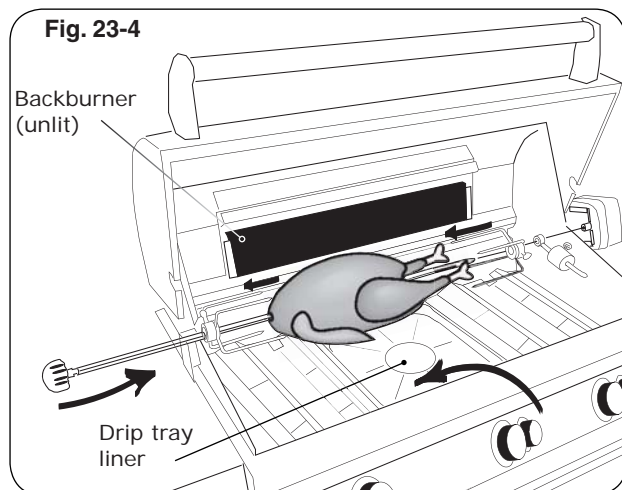

Fig. 23-4
4. Slide the left meat holder onto the rod (and tighten), the meat onto the rod and into the holder, followed by the right meat holder onto the rod and into the meat as shown in Fig. 23-4. Tighten the right meat holder. Be sure the meat is centered and balanced as well as possible.
11. To keep drippings off the burners and simplify cleanup, place Fire Magic® drip tray liners under the meat, if desired (Fig. 23-4).